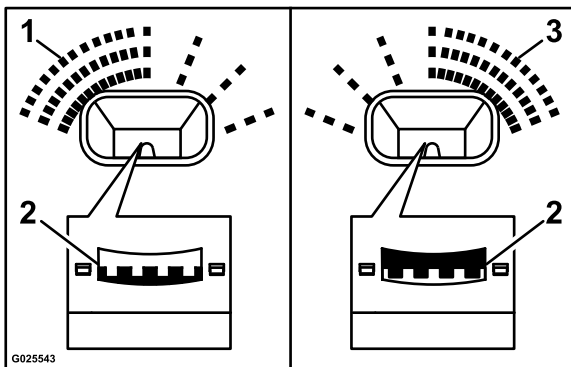
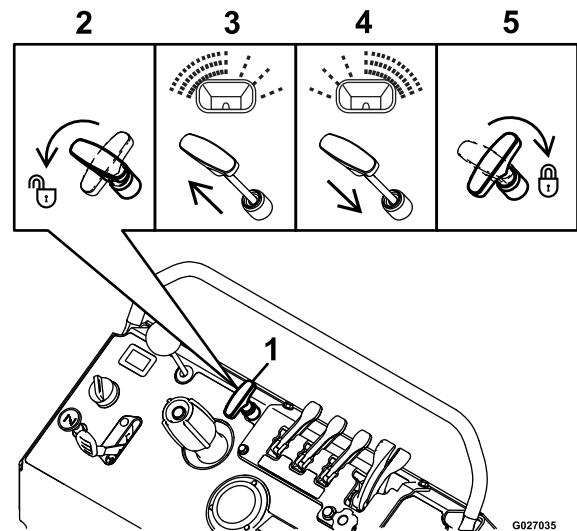

Figure 30
Figure 31
If the spreader is casting material in a unequal side-to-side—too light/heavy to one side—(see Figure 30 and Figure 31), adjust the spreader pattern control as follows:
1. Unlock the spreader pattern control by turning the handle counterclockwise 90 degrees as shown in 2 of Figure 31.
- If the material is broadcast too heavy at the left side of the machine, pull up the spreader pattern control slightly up; refer to 3 of Figure 31.
- If the material is broadcast too heavy at the right side of the machine, push down the spreader pattern control slightly down; refer to 4 of Figure 31.
3. Lock the spreader pattern control by turning the handle clockwise 90 degrees; refer to 5 of Figure 31.